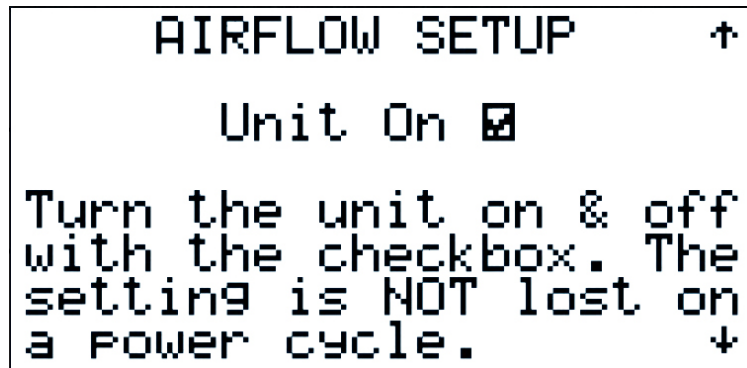

Figure 36
2.3.3.1.4 Airflow Setup (Figure 36)
Selecting the AIRFLOW SETUP from the Commissioning Menu displays the screen shown in Figure 36. This screen allows the entire unit to be turned off. This would typically be used during service on the unit when power is required and the blowers need to be off. Note that this settings is not lost on a power cycle.